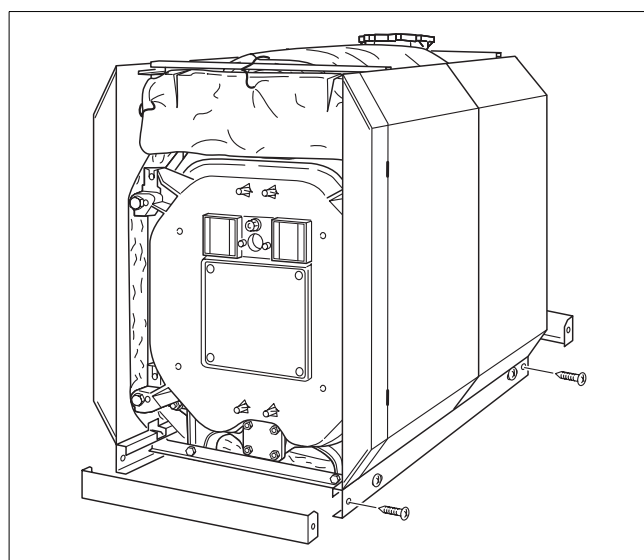

Fig. 50 Assembly – Fitting bottom rails
- Slide the transverse bottom rails into the longitudinal bottom rails from the front and rear. The horizontal limbs of the transverse bottom rails must be at the bottom and pointing towards the boiler (Fig. 50).